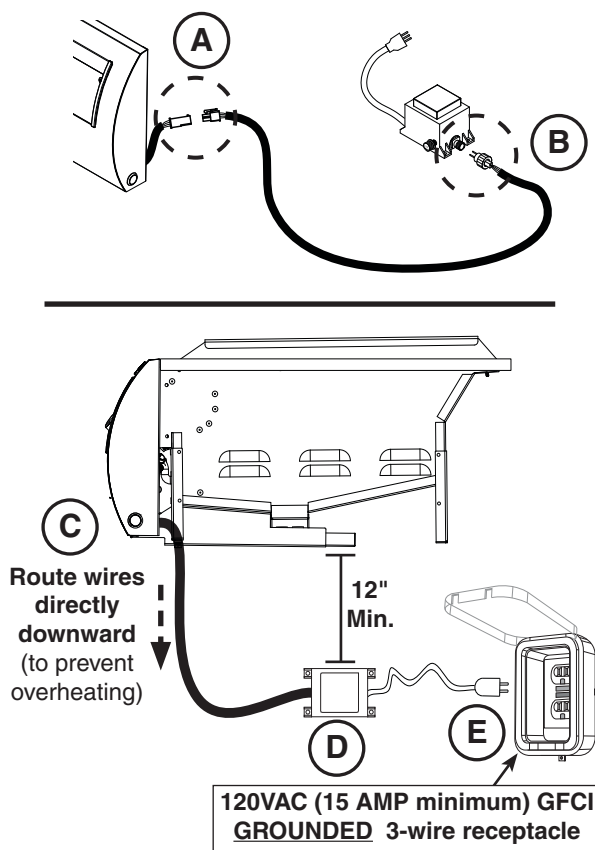

Fig. 24-1 Electrical installation
1. Locate the wire harness on the right side of the control panel. Cut the cable tie, and then connect it to the supplied wire harness extension. See Fig. 24-1, A.
2. Connect the wire harness extension to the power supply by inserting, then screwing on the cap (see Fig. 24-1, B).
3. Route the wire harness extension below the control panel and directly downward. This will prevent overheating. **DO NOT** route the wire extension below the griddle. See Fig. 24-1, C.
4. Mount the power supply to the inside of the enclosure using appropriate hardware for your enclosure. It **MUST** be located at least 12 inches below the bottom of the unit. See Fig. 24-1, D.
5. Connect the cord coming from the power supply to a **120VAC (15 AMP minimum) GFCI GROUNDED 3-wire receptacle** (see Fig. 24-1, E). The GFCI receptacle must be a WEATHER-PROOF IN-USE COVERED RECEPTACLE.